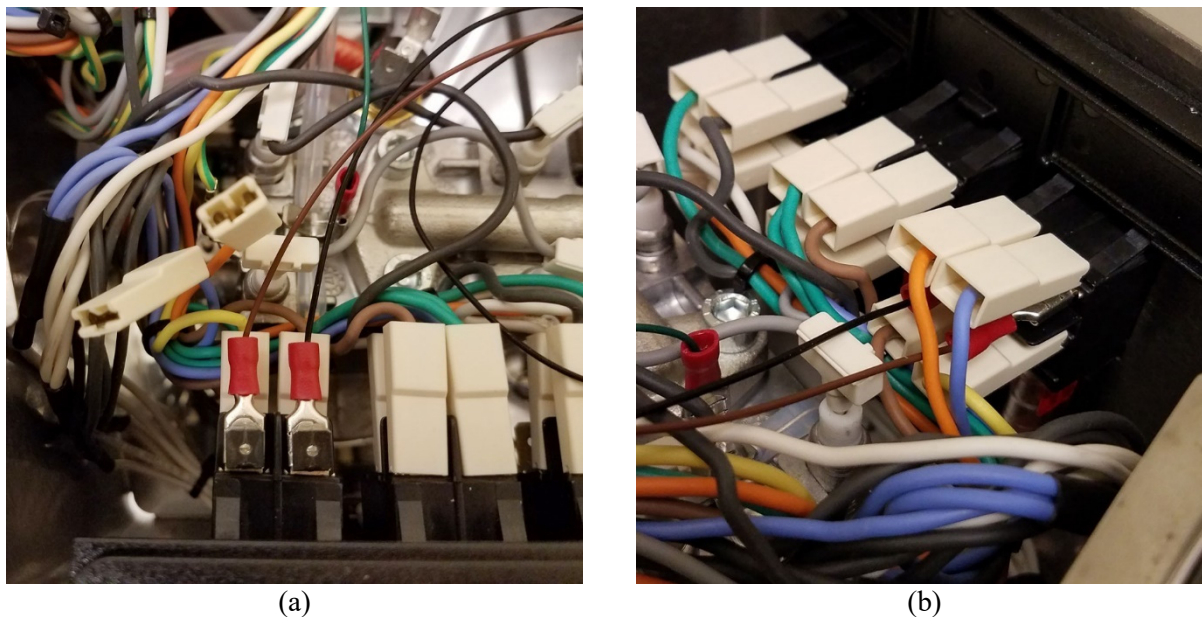
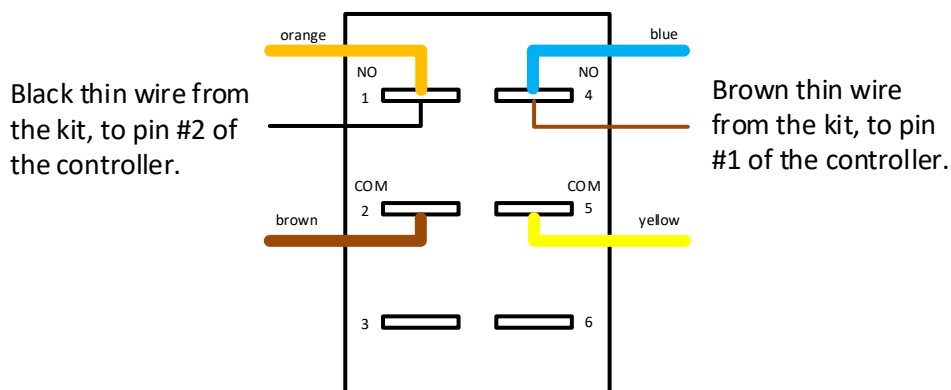

Figure 22. (a) Tapped the brown wire and the black wires to the power button. (b) Connect the original wires to the piggyback connectors.
Figure 23. A schematic diagram (back-view) of how to tap the black and the brown thin wires from the kit to the power button.
- 2) **Tapping the black wire and the brown wire from the kit to the power button.** Identify the black wire and the brown wire from the kit. Both of these wires have piggyback connectors on one end. They should be tapped to the pin #1 and #4 on the power button as shown in Figure 22(a). Attached piggyback connector of the black thin wire from the kit to pin #1, i.e., where now the orange wire is. And then attach the piggyback connector of the brown thin wire from the kit to pin #4 of the power button, i.e., where the blue neutral wire is. Please refer to Figure 22(a) for how the wires should be tapped. Please make sure the tab on the piggyback connector is facing up. You'll also need to press the tab down a little bit. Now, re-connect the orange wire from the coffee machine to the tab on the black thin wire; and re-connect the blue wire from the coffee machine to the tab on the brown thin wire. Please see Figure 22(b) for a finished image. The diagram in Figure 23 shows the back-view of the power button.